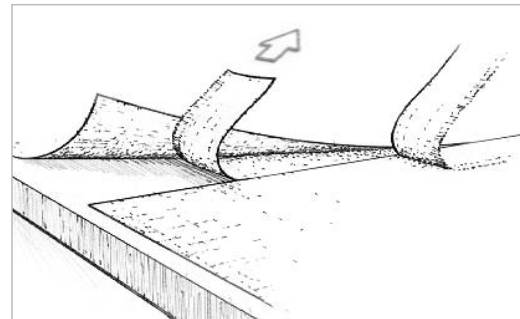

Figure 9-21 Remove the topmost trimming. Then lift the opposite cut edge to remove the overlapped trimming.
- c) Remove the topmost trimming and then lift the opposite cut edge to remove the overlapped trimming (*Figure 9-21*). d) Re-wet the underside of the raised edge with epoxy and smooth into place.